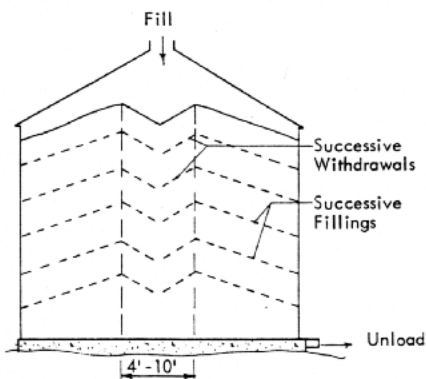

Fig 5. Withdrawals during tilling remove most fines from the 4-10' core.
*Another possibility is no grain spreading coupled with frequent withdrawal of the center core of grain to remove accumulated fines. Direct the flow of grain toward the exact center of the storage. The grain drops onto the grain pile and rolls down toward the outside wall. Remove grain at regular intervals (daily or more often) during filling to remove the peak. The goal is to draw the surface daily to an inverted cone with a diameter of 4' to 10'. Repeated withdrawals remove many of the fines that accumulate in the center core. See Fig 5.